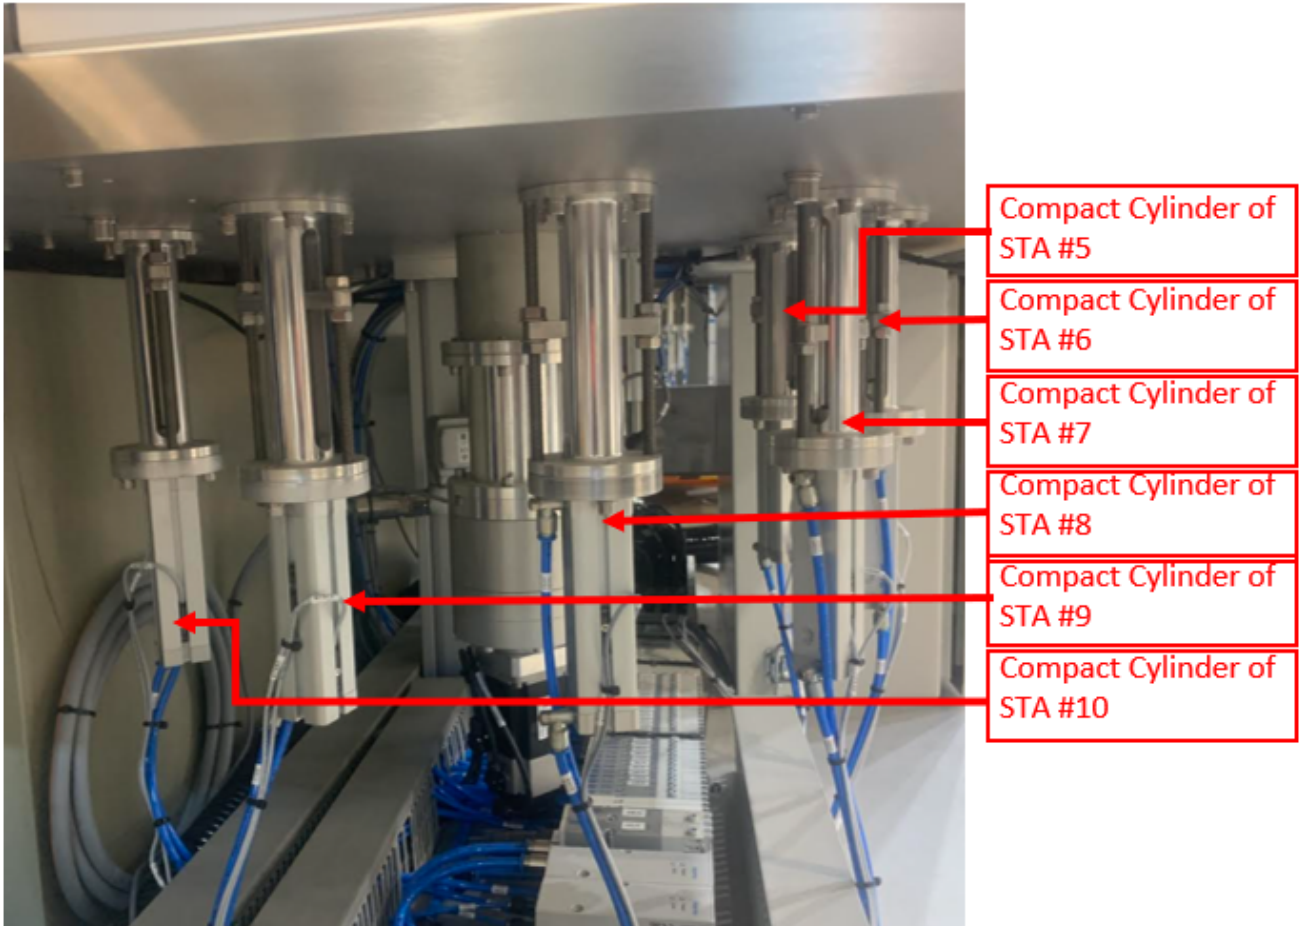

Figure 5-20 Compact Cylinders position
10- Repeat the procedure from **Step 7-** for all the other four (4) rods (Except for station #8) as shown in Figure 5-20.